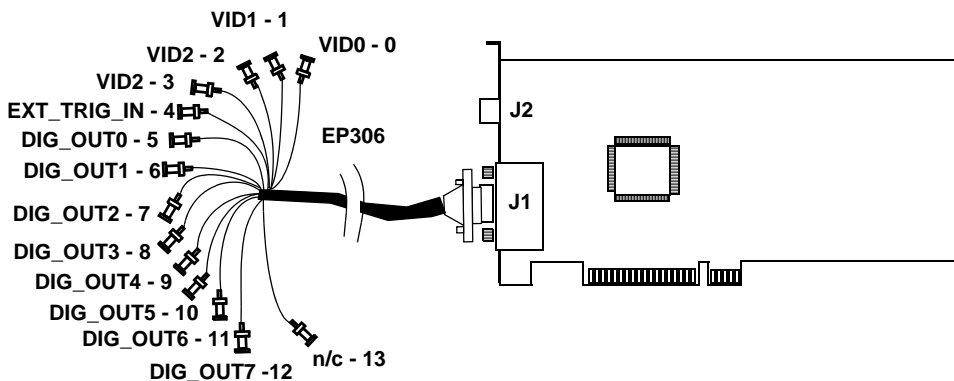

Figure 4: Connecting the EP306 Cable to Connector J1
1. After making sure power to the computer is off, push the 15-pin connector of the EP306 cable into the J1 socket at the rear of the DT3155, as shown in Figure 4, and tighten the screws on the connector.